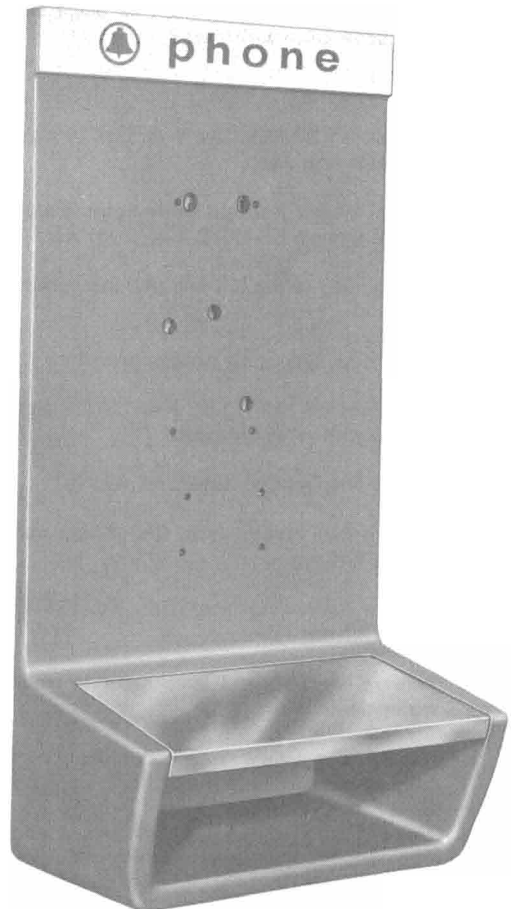

Fig. 5—KS-19945, List 14 Coin Telephone Shelf
3.07 Install 1A/1C-type coin telephone set in accordance with Sections 506-410-400 or 506-411-401. Security studs will go through shelf and backboard (Fig. 5).